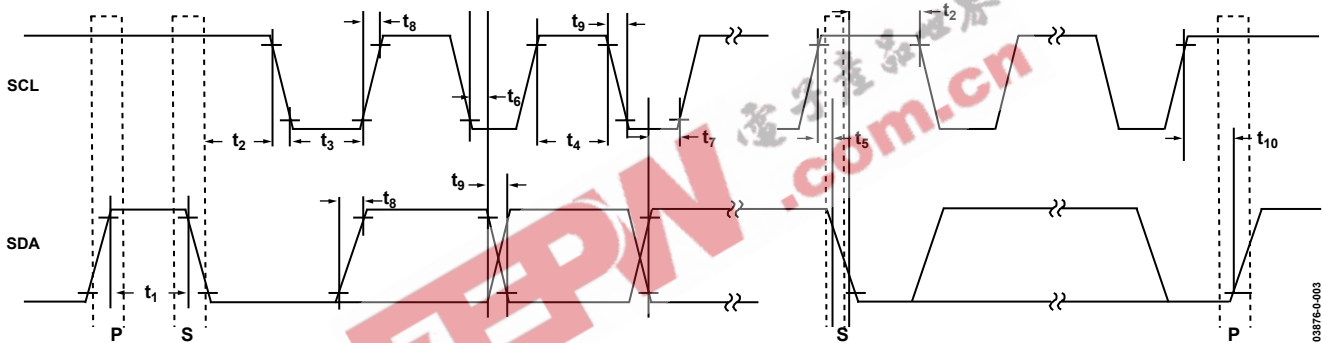
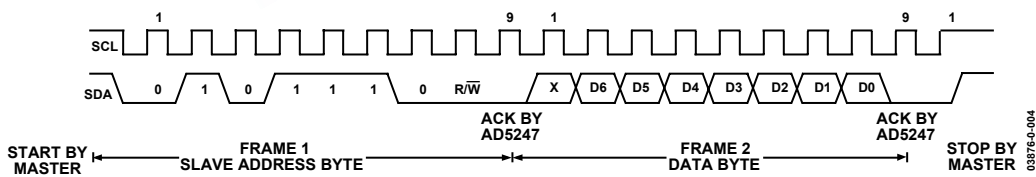
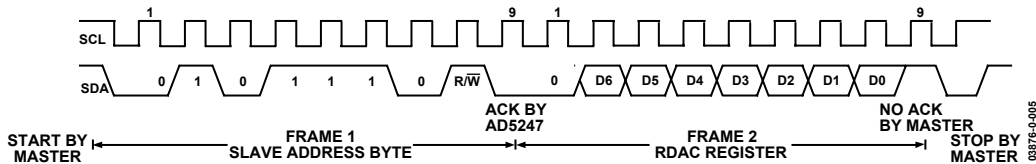

Figure 31. I²C Interface, Detailed Timing Diagram
Figure 32. Writing to the RDAC Register
Figure 33. Reading from the RDAC Register
³ See timing diagrams (Figure 31, Figure 32, Figure 33) for locations of measured values.
1. The master initiates data transfer by establishing a START condition, which is when a high-to-low transition on the SDA line occurs while SCL is high (see Figure 32). The following byte is the slave address byte, which consists of the 7-bit slave address followed by an R/W bit (this bit determines whether data will be read from or written to the slave device).
3. In read mode, after acknowledgment of the slave address byte, data is received over the serial bus in sequences of nine clock pulses (a slight difference from write mode, where eight data bits are followed by an acknowledge bit). Similarly, the transitions on the SDA line must occur during the low period of SCL and remain stable during the high period of SCL (see Figure 33).
4. When all data bits have been read or written, a STOP condition is established by the master. A STOP condition is defined as a low-to-high transition on the SDA line while SCL is high. In write mode, the master will pull the SDA line high during the tenth clock pulse to establish a STOP condition (see Figure 32). In read mode, the master will issue a No Acknowledge for the ninth clock pulse (i.e., the SDA line remains high). The master will then bring the SDA line low before the tenth clock pulse, which goes high to establish a STOP condition (see Figure 33).